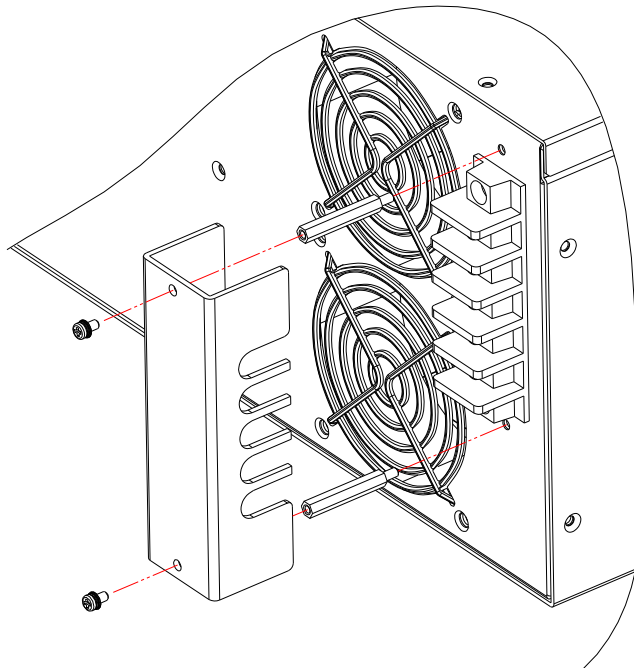

Figure 2-5 Assembling 62050P Input Terminal Safety Cover
- Lock the safety cover to avoid electric shock. See Figure 2-5 for assembling.